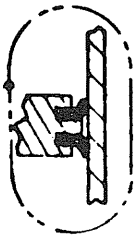

Figure 5 [Lipseal/Piston Arrangement]
Before reassembling, apply a thin layer of grease (Dow-Corning #DC-33 light lubricant or equivalent) to inner wall of cylinder (14), actuator stem (11), lipseals (8) and the lipseal grooves in piston (9). Care should be exercised when inserting piston (9) into cylinder (14) because lipseal (8) flare is designed of a larger diameter than the cylinder bore. **If the piston will not enter the cylinder bore, run a shim [approximately .010" thick x 1/2" wide] between the lipseals and cylinder wall while applying slight pressure on the piston. [See figure 5].** Stem (11) should be carefully inserted through bearing (15) to prevent damage of bearing surface by thread of stem.
Before reassembling, apply a thin layer of grease (Dow-Corning #DC-33 light lubricant or equivalent) to inner wall of cylinder (11), actuator stem (5), lipseals (10) and the lipseal grooves in piston (12). Care should be exercised when reinserting piston (12) into cylinder (11) because lipseal (10) flare is designed of a larger diameter than the cylinder bore. **If the piston will not enter the cylinder bore, run a shim [approximately .010" thick x 1/2" wide] between the lipseals and cylinder wall while applying slight pressure on the piston. [See figure 5]. Stem (5) should be carefully inserted through bearing (6) to prevent damage of bearing surface by thread of stem (5).**